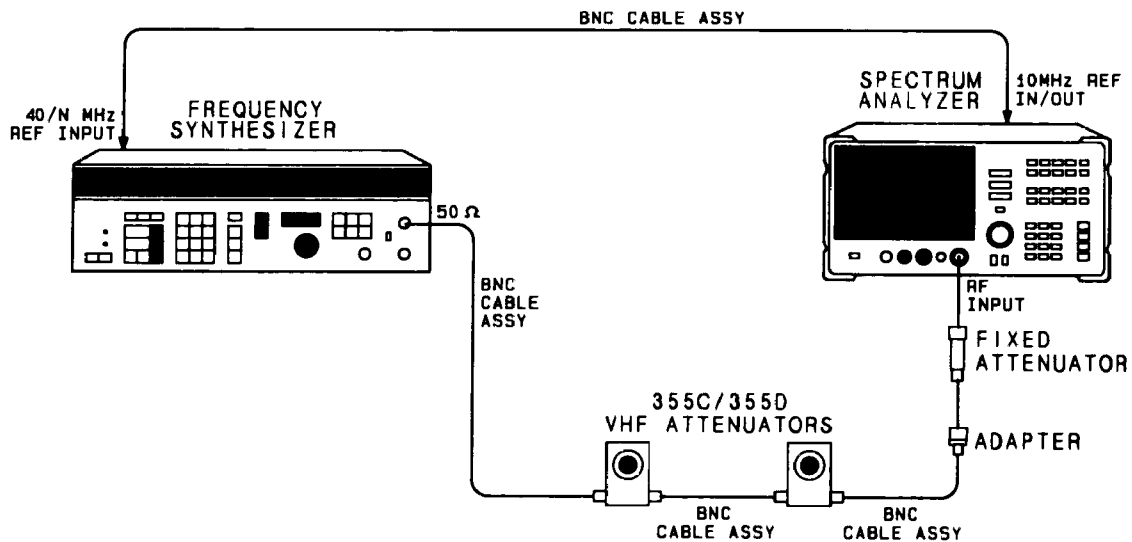

Figure 3-8. Scale Fidelity Test Setup
1. Connect the equipment as shown in Figure 3-8. The HP 8562A/B Spectrum Analyzer provides the frequency reference for the HP 3335A.